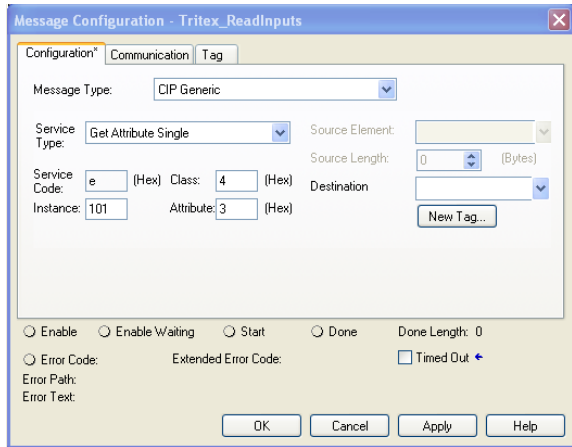

Figure 25 – Get Message Configuration Properties
4. Configure Message Configuration parameters. See figure 25.